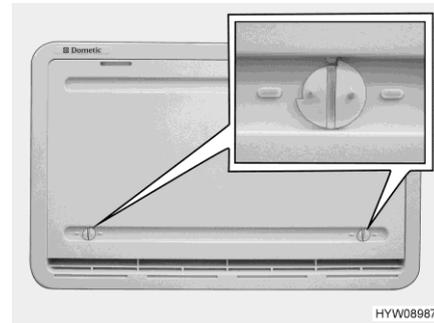

Fig. 187 Winter cover (refrigerator ventilation grill)
The winter covers (Fig. 187) protect the cooling unit against cold air. Place winter covers in front of both refrigerator ventilation grills when the external temperature falls below +10 °C (both for gas and electrical operation).
- Open both locks (Fig. 187) (groove in horizontal position).